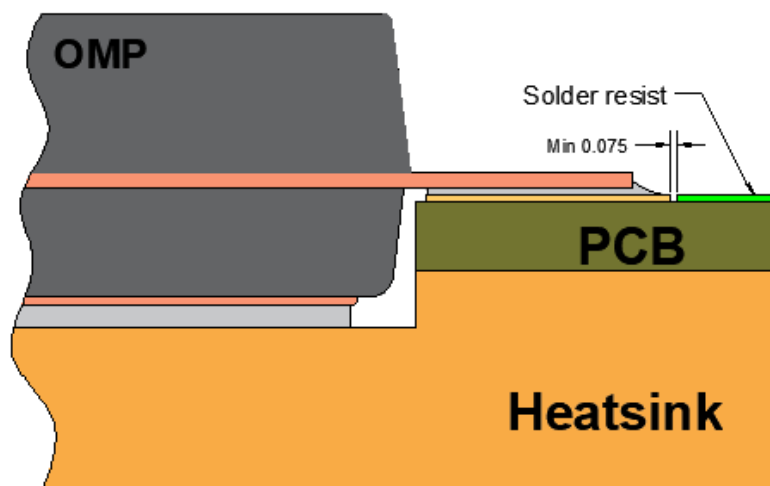

Figure 19. NSMD cross section view OMP straight leads package
- Non solder mask defined (NSMD) the solder mask openings are larger than the exposed metal pad (Figure 19).